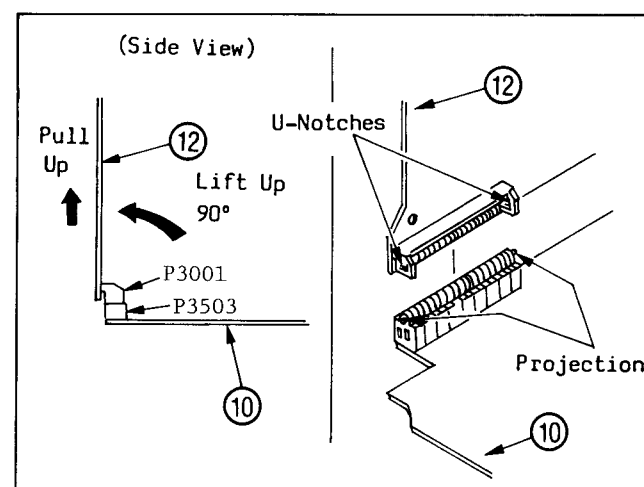

Fig. D8
- 1) Release 2 Locking Tabs (L-2) and (L-3) in Fig. D7. And place the Luminance/Chrominance C.B.A. as shown in Fig. D8.